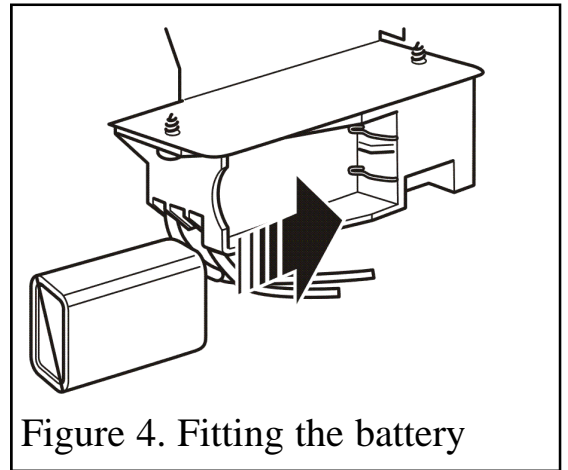

Figure 4. Fitting the battery
2. Fit the replacement battery to the ignition block. (See figure 4). The positive terminal (+) is to the top as you insert.